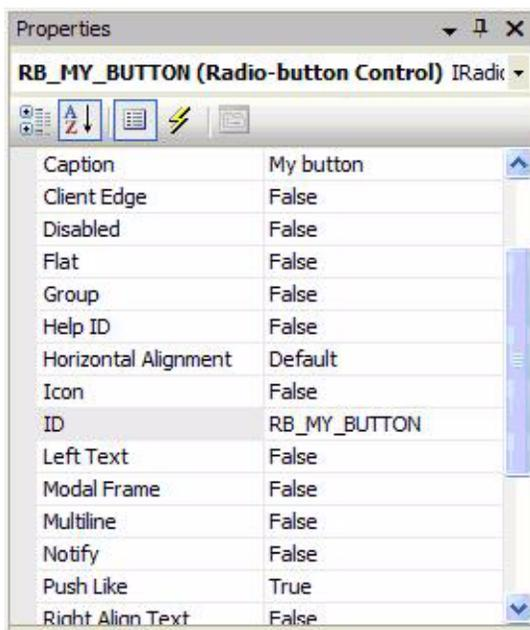

Figure 3. Radio Button Properties
5. Modify the radio button properties. Change the caption text, in this example **My button** is used. Also, set the Push Like property to true. See Figure 3.